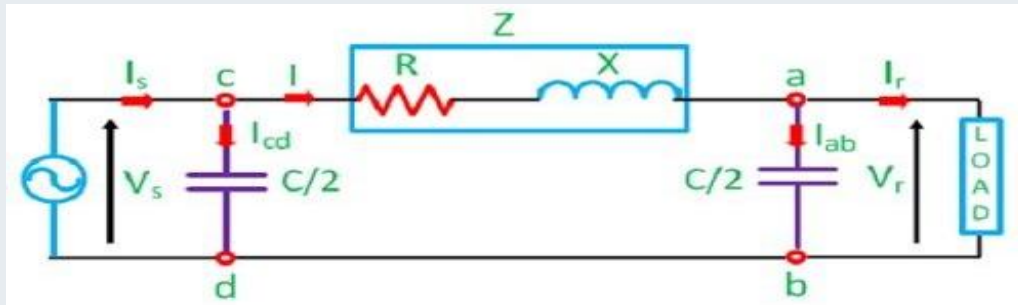

Figure 3. Nominal π method medium transmission line. url: <https://circuitglobe.com/wp-content/uploads/2016/05/pi-model-medium-line.jpg>
- According to this strategy, the complete resistance and inductive reactance are concentrated at the center of the line, while half of the total line capacitance is focused at each end as presented in Fig.3[3].